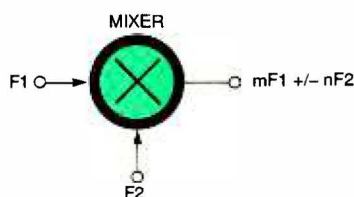

Fig. 3. In a basic mixer circuit, the sum ($F_1 + F_2$) and difference ($F_1 - F_2$) of two input frequencies appear at the output.
Frequency Translation. The process of frequency translation or conversion is called heterodyning. When two frequencies (F_1 and F_2 in Fig. 3) are mixed together in a nonlinear circuit, a collection of different frequencies will appear at the output. Those frequencies are characterized as $mF_1 \pm nF_2$, where n and m are integers or zero (0, 1, 2, 3...). For the sake of simplicity, we normally consider only the cases where m and n are either 0 or 1, so the output frequencies are F_1 , F_2 , $F_1 - F_2$ (difference), and $F_1 + F_2$ (sum). To make a super-heterodyne receiver (the most common modern form), select either the sum ($F_1 + F_2$) or difference ($F_1 - F_2$) frequency as the receiver's intermediate frequency (IF). The NE602 contains a double-balanced mixer, so when it is properly impedance matched, it suppresses the two input frequencies (F_1 and F_2) at the output, and only produces the sum and difference frequencies.